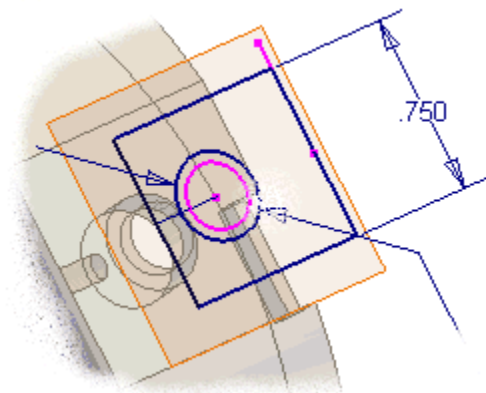

Figure 21: Modified sketch.
9. Fix the sketch by adding a line between the two sketch lines as shown in Figure 21.